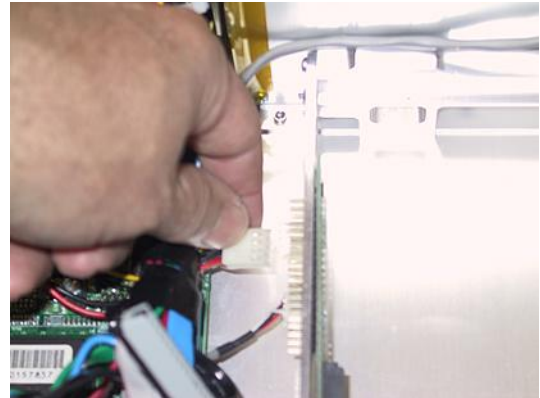

Figure 5-71
- 4) Remove the main power connector as illustrated in Figure 5-71 (release the latch with your finger or thumb nail while pulling on the cable).